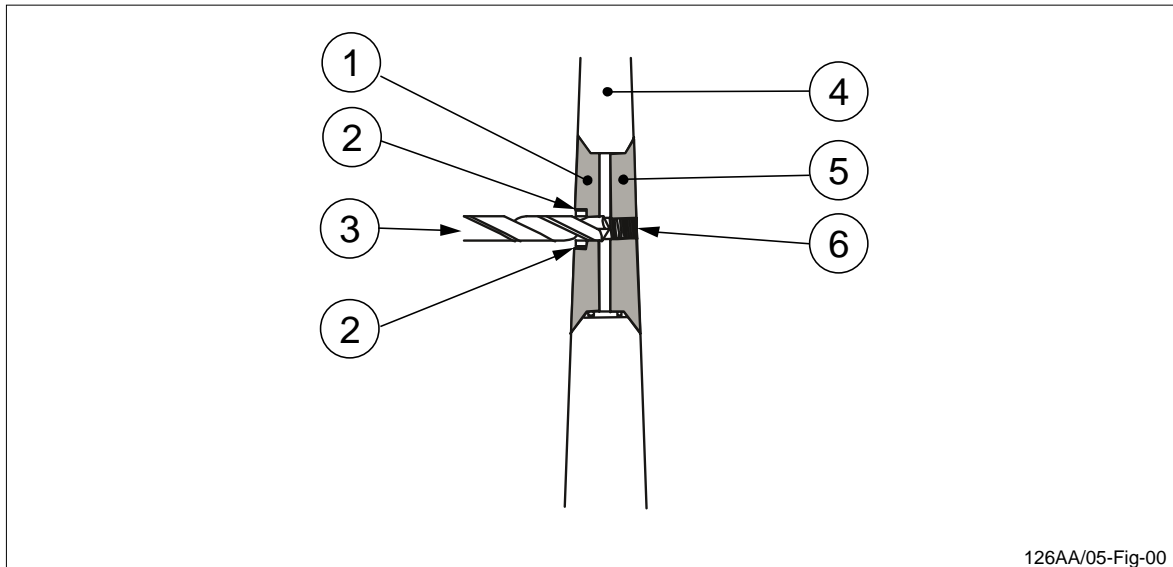

Figure 13 The crack bolt head must be drill out before removing the lifting hole plug.
2. Use a drill with a diameter of 13.5 mm or 18 mm and drill, to a depth of approximately 10 mm, until the head loosens from the crack bolt (see figure 13). When the head has loosened do not drill any deeper.
1. Use a lathe or a facing cutter to turn out the spot welds that fastens the remaining part of the crack bolt head to the plug (see position 2, in figure 13). Remove the crack bolt head.